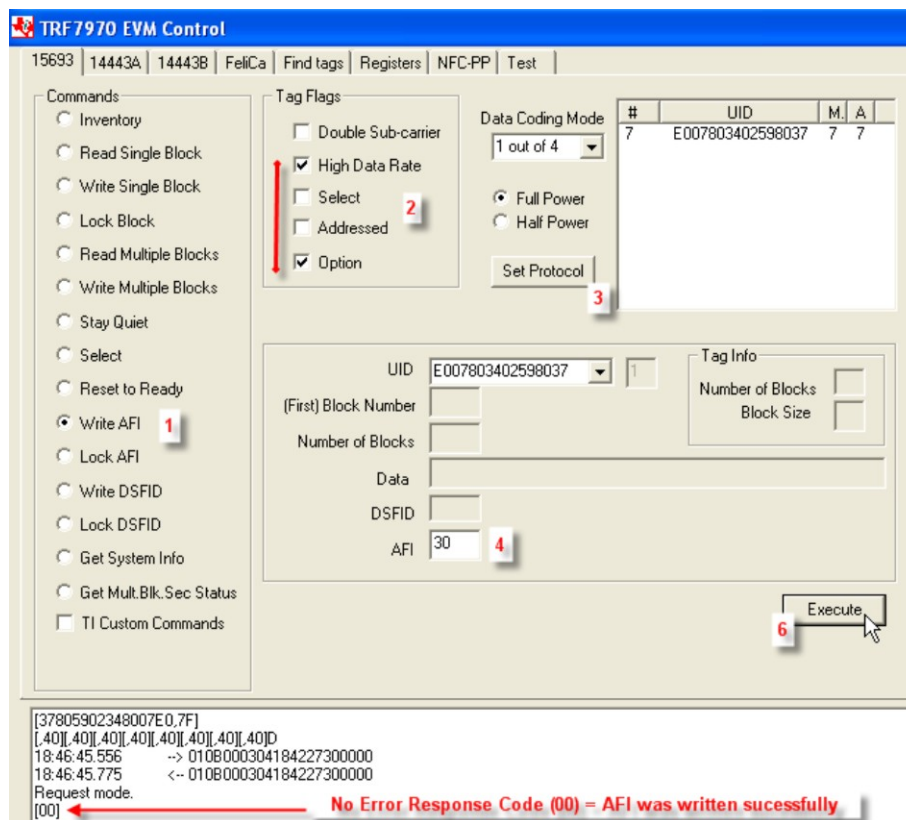

Figure 14. Write AFI Command Example
2. Select Tag Flags accordingly (see Figure 14 for one example, note use of option flag)